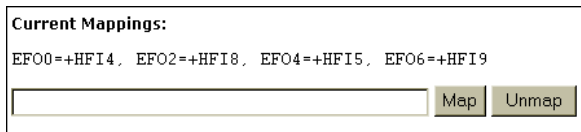

FIG. 288: GROSS WEIGHT ASSIGNED TO HARDY CONTROL-LINK FLOAT OUT
Step 38. Click on the Map button to map the assignment statement. (See Fig. 288)